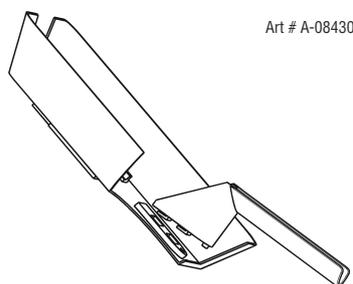

Figure 3-1: Hook handle into the main face shield assembly
- Hook the handle into the main face shield assembly as shown in Figure 3-1 below.